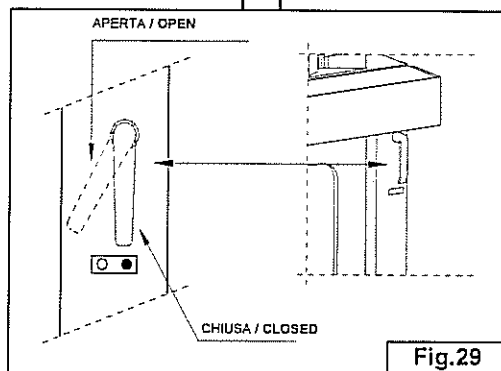

Fig.29
- Aprire Fig.29 la serranda manuale scarico vapori.
- Open the manual steam vent as shown in Fig. 29